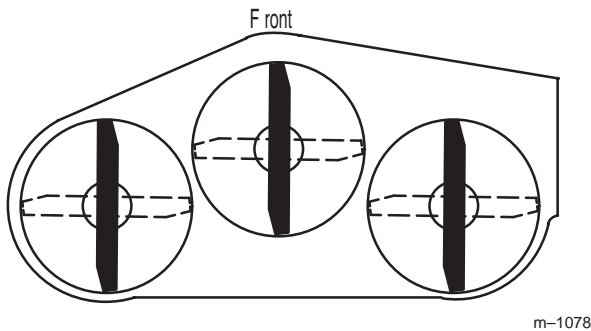
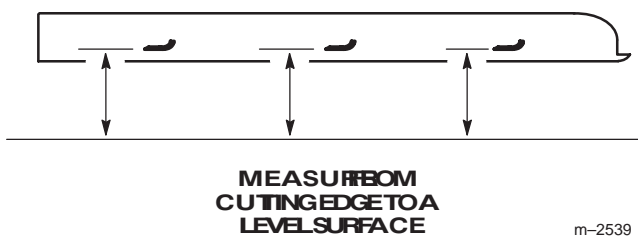

Figure 19
Figure 20
2. Rotate the blades until the ends face forward and backward (Fig. 19). Measure from a level surface to the cutting edge of the blades (Fig. 20). Note this dimension.